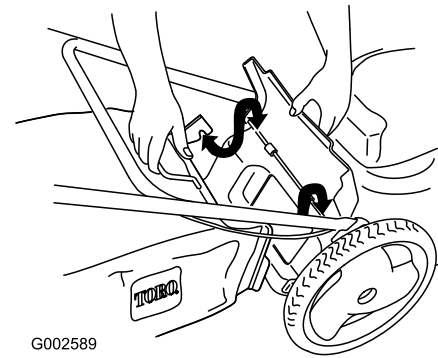

Figure 21
3. Install the bag onto the door rod (Figure 21).